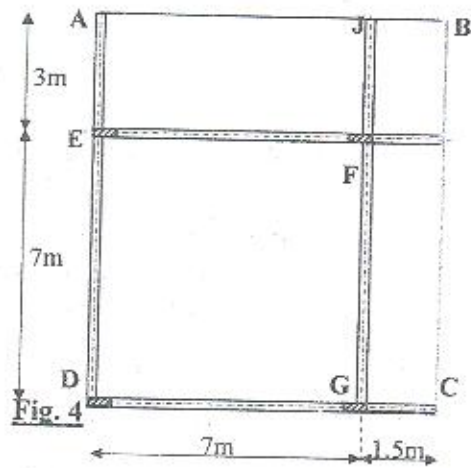

Fig. 4
- Figure 4 shows structural plan of a roof ABCD with cantilevers. The roof is rest on four beams that supported on four columns. The hollow-block slab system is required. The slab is subjected to live load $= 4\text{kN/m}^2$ and flooring cover $= 1.3\text{kN/m}^2$. The cross section of all beams is $250 \times 700\text{mm}$. It is required to carry out the following: